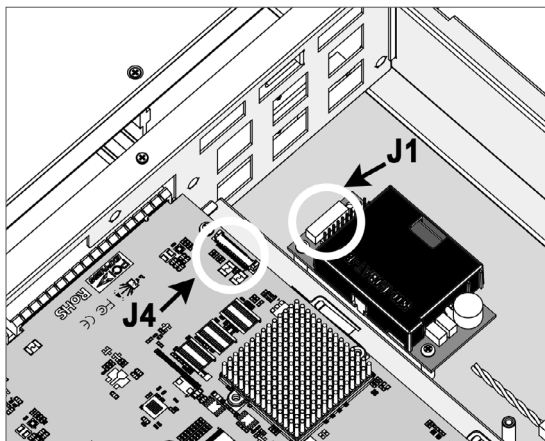

Figure B-4, Insert the cable connector into J1 & J4
3. Insert the cable connector into the **J1** (10-pin box header supercapacitor backup connector on ARC-1886-CBM module), and also insert another side of the cable connector into the **J4** (10-pin box header supercapacitor backup connector on ARC-8050T5U-12R controller), as shown in Figure B-4.